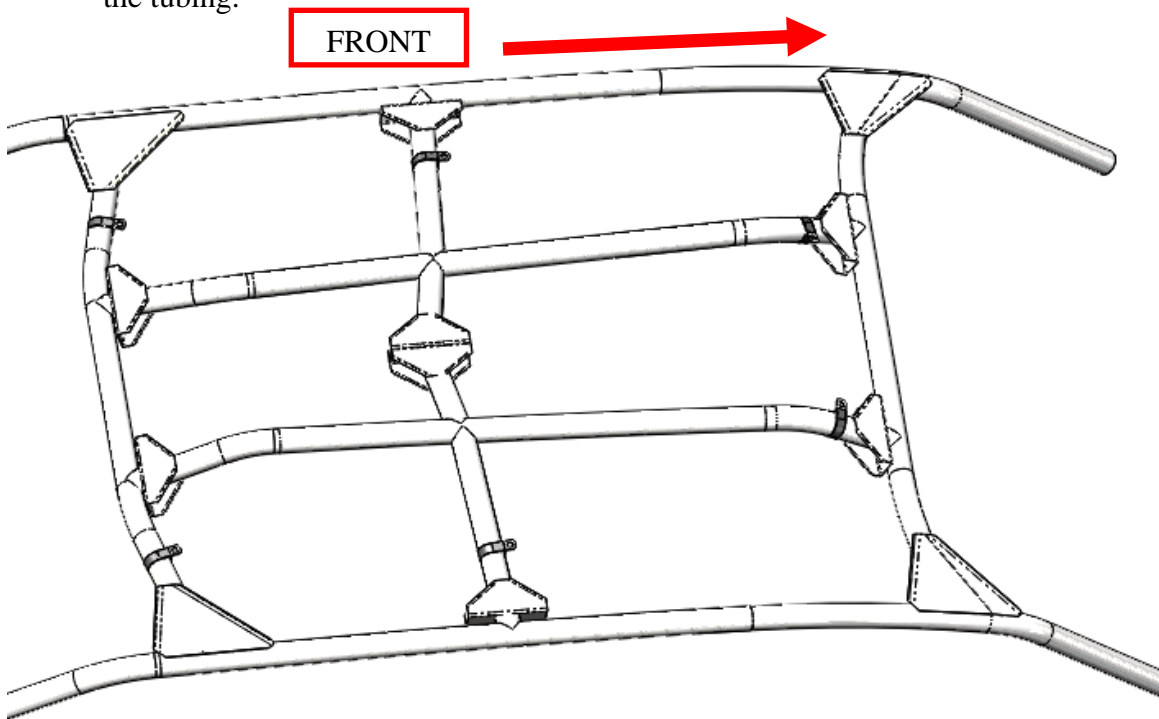

Figure 5: Approximate clamp locations.
2. Spread the clamps by hand and slide them over the cage tubing. Place them on the cage in the approximate locations shown in Figure 5. Note the orientation of the clamp tab. It must line up with the hole, flat against the top, on the correct side of the tubing.